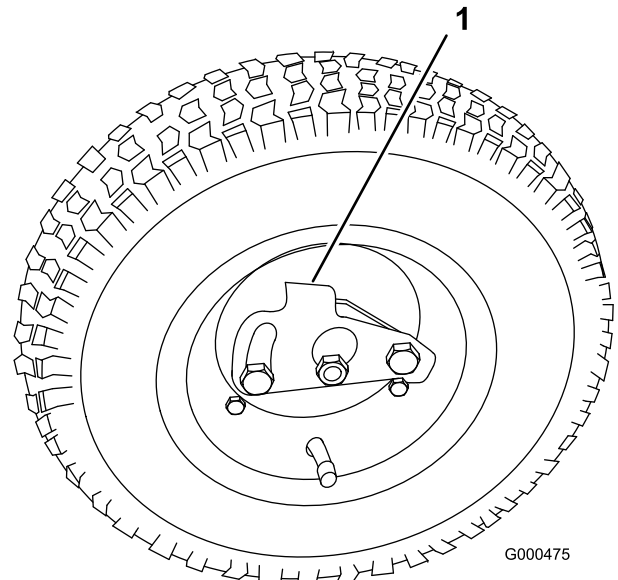

Figure 8
2. Press wheel locking clip toward the center of wheel and slide wheel onto hex shaft (Figure 8).